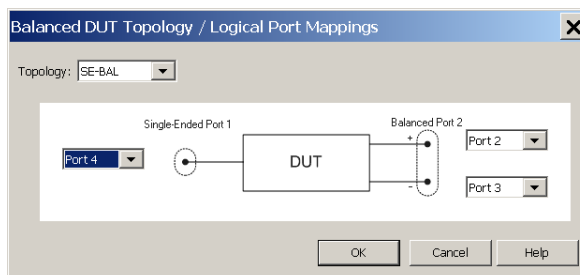

**Figure 3 Logical Port Mapping for OE measurement**
For OE measurements the single-ended (SE), logical port 1 is assigned to physical port 1 and the balanced (BAL), logical port 2 is assigned to the physical ports 2 and 3 (see Figure 3).